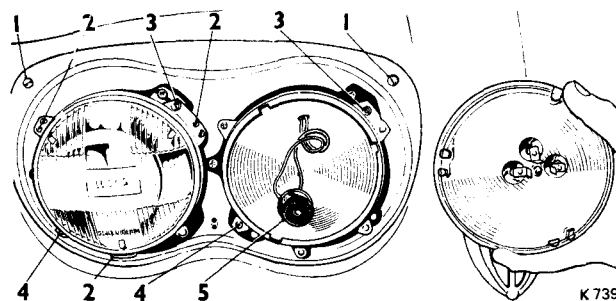

FIG. M49 ACCESS TO SEALED BEAM UNITS
1. Remove the fairing securing screw, raise the lower edge of the fairing and unhook it from the two upper retainers; remove the seal (see Fig. M49).